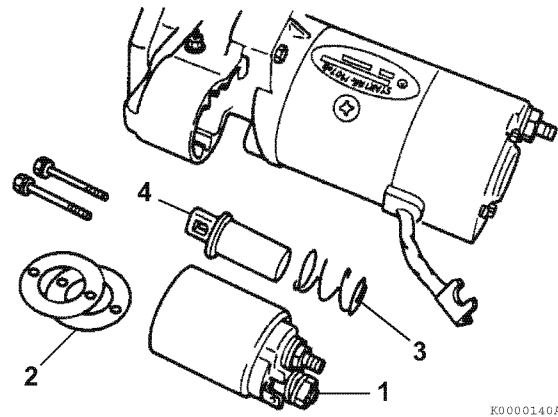

Figure 11-33
14. Reinstall the return spring (if equipped) (3, **Figure 11-33**) on the solenoid plunger (4, **Figure 11-33**). Reinstall the solenoid switch coil (1, **Figure 11-33**) and dust covers (2, **Figure 11-33**). Secure with nuts or bolts.